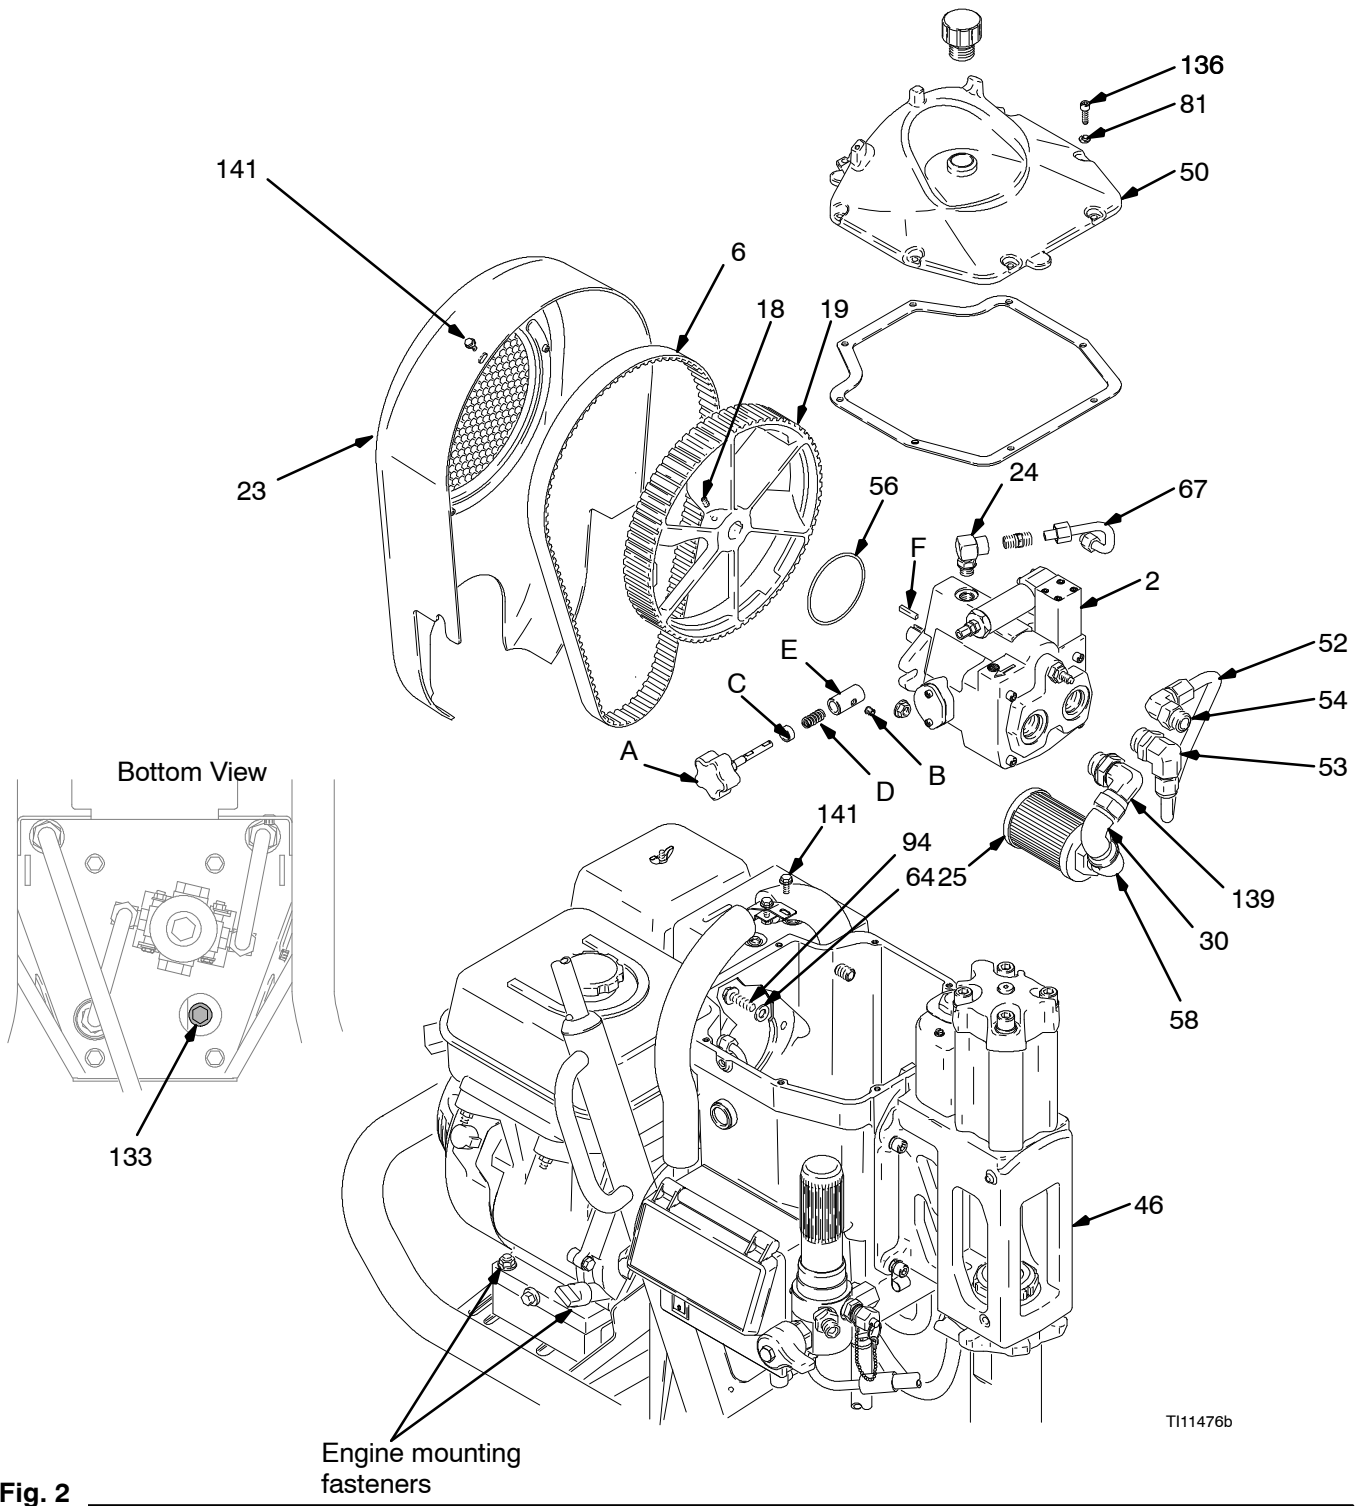
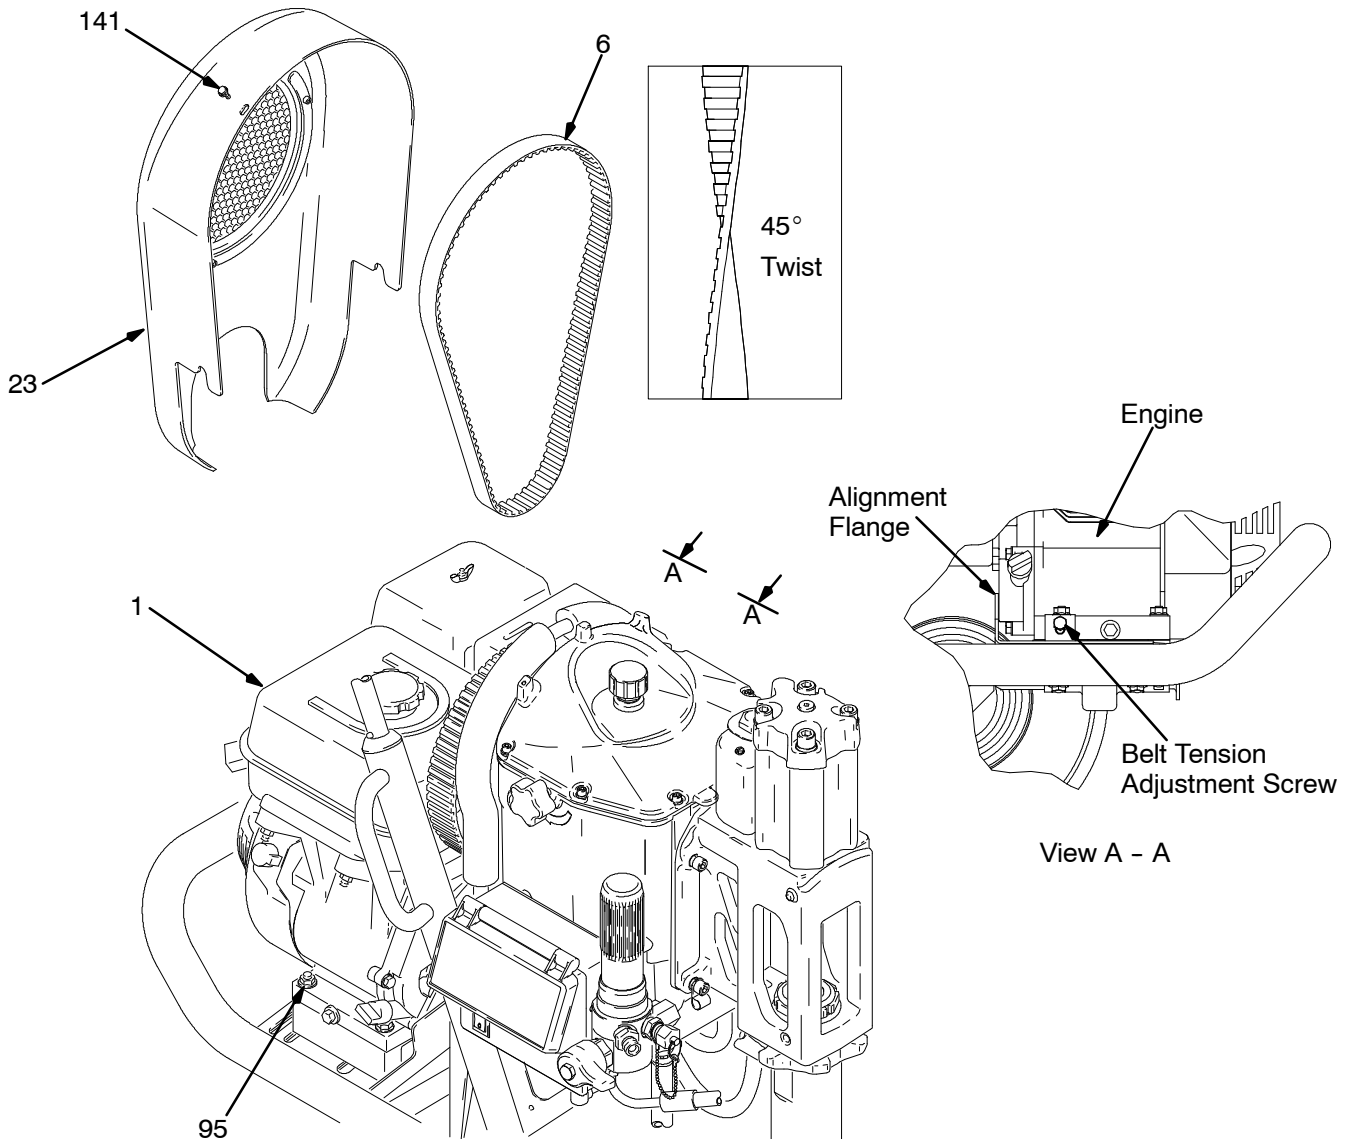

Fig. 2
Fig. 3
2. Fig 2. Use 3.5 gallon container to catch hydraulic fluid. Remove reservoir drain plug (133) and drain hydraulic fluid.
3. Remove two screws (141) and fan shroud (23).
4. Remove eight screws (136), washers (81) and reservoir cover (50).
5. Remove cooler clip screw (141).
6. Loosen four engine mounting fasteners and belt tension adjustment screw (Fig. 3). Slide engine to left (rear view) to relieve tension on belt (6). Remove belt.
7. Remove two set screws (18) and fan (19).
8. Disconnect hydraulic tube (52) from elbow (54) and hydraulic motor manifold (46).
9. Disconnect strainer (25) with elbows (58, 30) assembled, from elbow (139).
10. Remove case drain tube (67).
11. Turn compensator stem (A) clockwise until stop. Loosen set screw (B). Pull compensator stem out. Remove holder (C), spring (D) and coupler (E).
12. Remove two pump bolts (94) from reservoir.
13. Lift hydraulic pump (2) up and toward front of reservoir to remove.
1. Transfer fittings (53, 139) to new pump (2).
2. Place strainer (25) with fittings (30, 58) assembled, into reservoir prior to installing pump.
3. Attach hydraulic tube (52) to pump (2) with elbow (53). Install new o-ring (56) on hydraulic pump flange
4. Fig 2. Set hydraulic pump (2) down and toward rear of reservoir to install.
5. Install two pump bolts (94) in reservoir with copper washers (64) on outside under screw heads. Torque to 31–35 ft-lb.
6. Connect strainer (25) to elbow (139).
7. Connect elbow (54) to hydraulic motor manifold (46). Connect hydraulic tube (52) to elbow (54). Torque hex nuts on elbows (139) and (53) to 38 – 42 ft-lb.
8. Insert spring (D) into coupler (E) and put holder (C) on exposed end of spring. Slide assembly (D, E, C) over compensator stem (A). Align flat on compensator stem with set screw (B). Hold compensator stem knob and torque set screw to 90 in-lb.
9. Install key (F) on pump shaft and install fan (19) with two set screws (18). Fan hub must overhang shaft approximately 0.20 in.
10. Install belt (6). Do **Fan Belt Installation**, page 8.
11. Install reservoir drain plug (133).
- b. Install case drain elbow (24) and tube (67).
1. Fig. 3. Remove two screws (141) and slide shroud (23) up and off of sprayer.
2. Loosen four fasteners on underside of engine (1).
5. Remove belt (6).